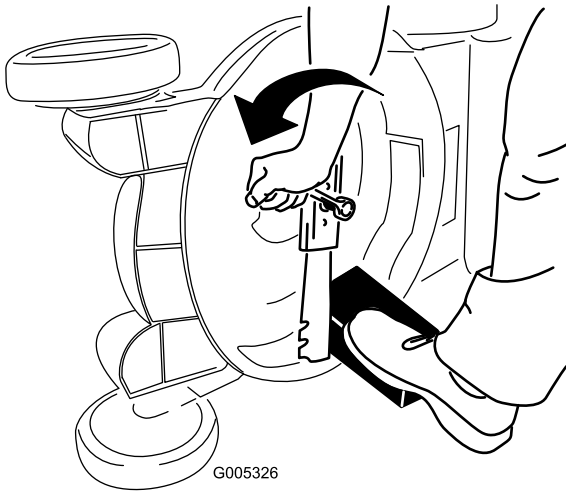

Figure 40
3. Use a block of wood to hold the blade steady (Figure 40).
4. Remove the blade, saving all mounting hardware (Figure 40).